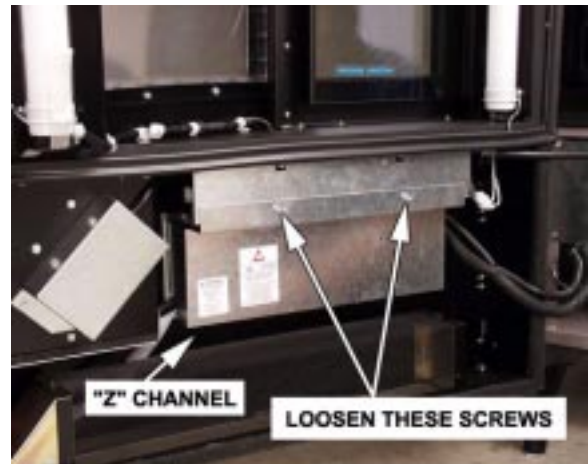

Figure 4
2. Loosen the two screws that secure the cover. Remove the cover by sliding it to one side and pivoting it down and towards you (figure 4).